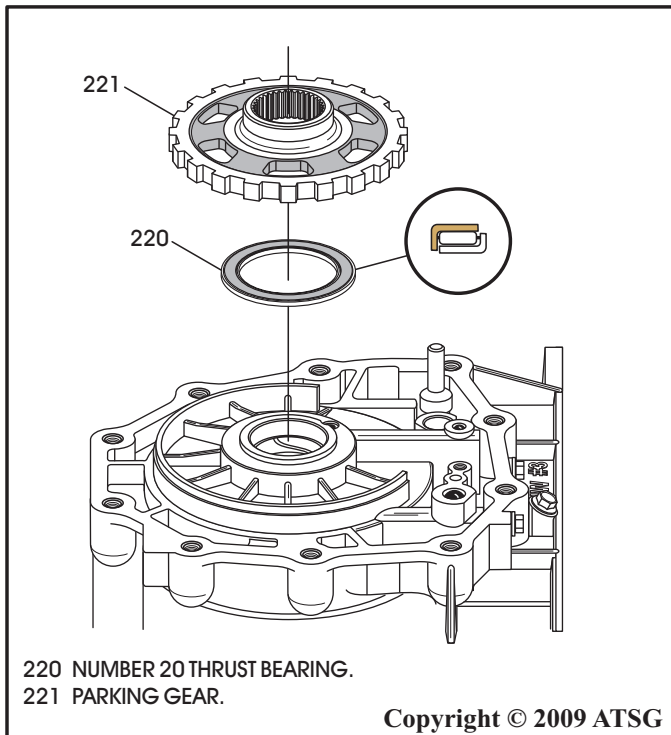

Figure 56
50. Remove the parking gear and the number 20 thrust bearing, as shown in Figure 56.